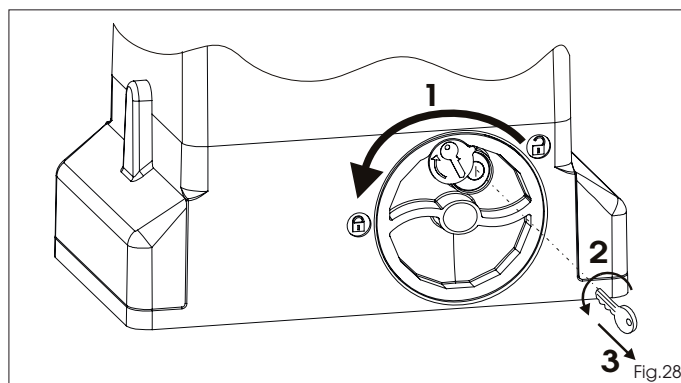

Fig.28
- 1) Turn the release system anti-clockwise, until its stop is reached, Fig. 28 ref. 1.
- 2) Turn the key anti-clockwise and remove it from the lock, Fig. 28 ref. 2 and 3.